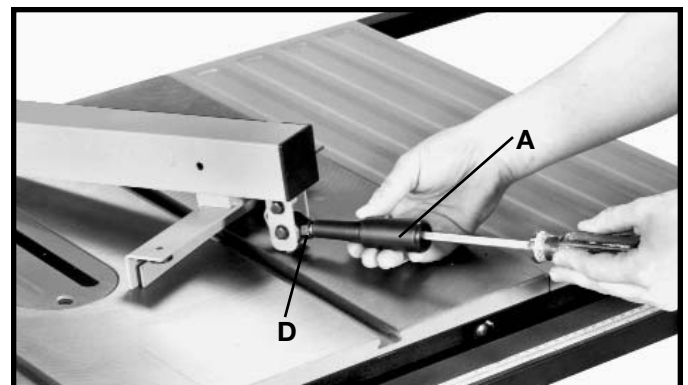

Fig. 21
2. Insert flat head screwdriver into rip fence handle (A) Fig. 21 and tighten screw (not shown).
3. Tighten hex nut (D) Fig. 21 against fence body.